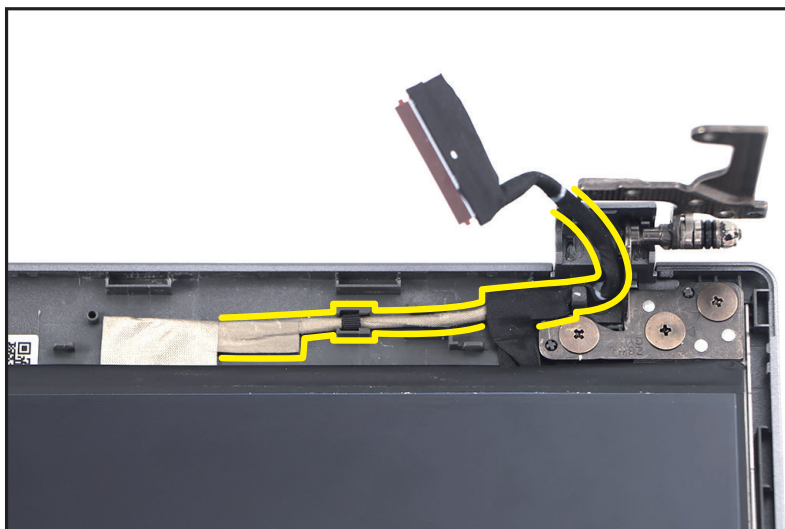

Figure 1-45. LCD Panel Removal
1. Release the LVDS cable from the LCD hinge and from the bottom cable guides on the LCD cover (Figure 1-45).